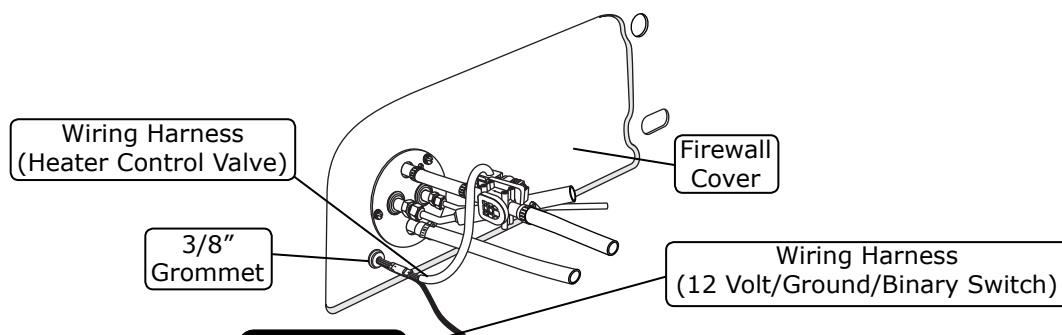

Figure 17
2. Route the A/C wires (12 volt/ground/binary switch/heater control valve) through the 3/8" grommet (See Figure 17, below).